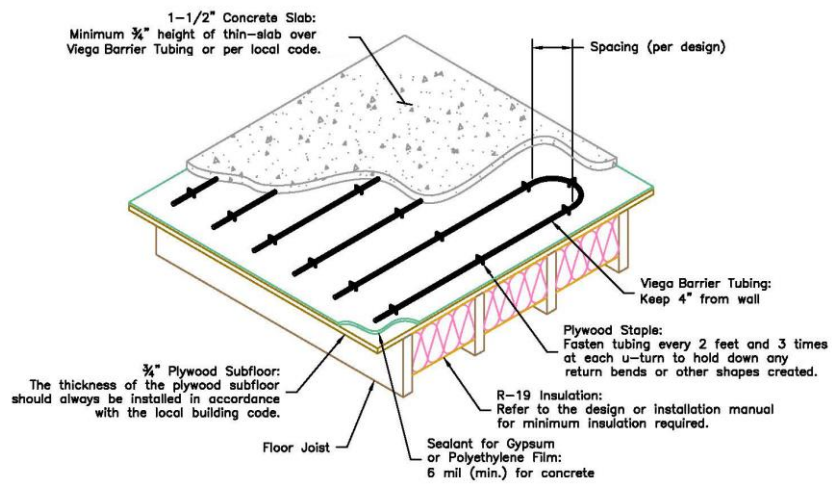

Figure 10 Thin-Slab – Plywood Staples
**Thin Slab:** Thin Slabs typically use gypsum based or a similar light weight product. Thin slabs are applied over structural slabs or subfloors. The thickness of the slab is usually less than that of a standard slab (thickness dictated by local code). When the tubing is installed in a poured gypsum underlayment or in a lightweight concrete pour over a wood subfloor, the tubing must be stapled to the wood subfloor. If applicable, insulation is installed beneath the floor in the joist cavity. See Figure 10.
**Return-air Plenums:** Combustible piping may be installed in areas required to be of noncombustible construction. The Viega Barrier and PureFlow FostaPEX® tubing products and Climate Mat were tested to ASTM E84, UL 263, ULC S101 and ULC S102.2 and were found to have a flame-spread index (FS) rating of not more than 25 and a smoke-developed index (SD) rating of not more than 50 when tested. The Viega Barrier and PureFlow FostaPEX® tubing products and Climate Mat have been evaluated for installation in either horizontal or vertical orientations in return-air plenums. Ratings apply when tubing is field insulated with fiberglass insulation meeting the following requirements: ASTM E84 Listed and having a Flame Spread Index of <25 and a Smoke Developed Index of <50, a Wall thickness of not less than 1/2" and there shall be no exposed tubing. Tubing may contain fittings which shall also be fully encased in insulation.